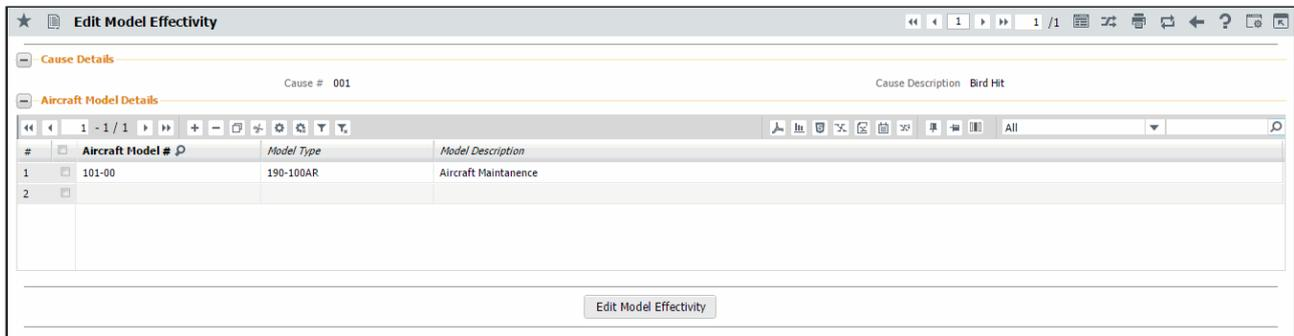

Figure 4.4 Associating models to cause code
4. Select the **Edit Model Effectivity** link at the bottom of the page. The **Edit Model Effectivity** page appears. See Figure 4.4. .